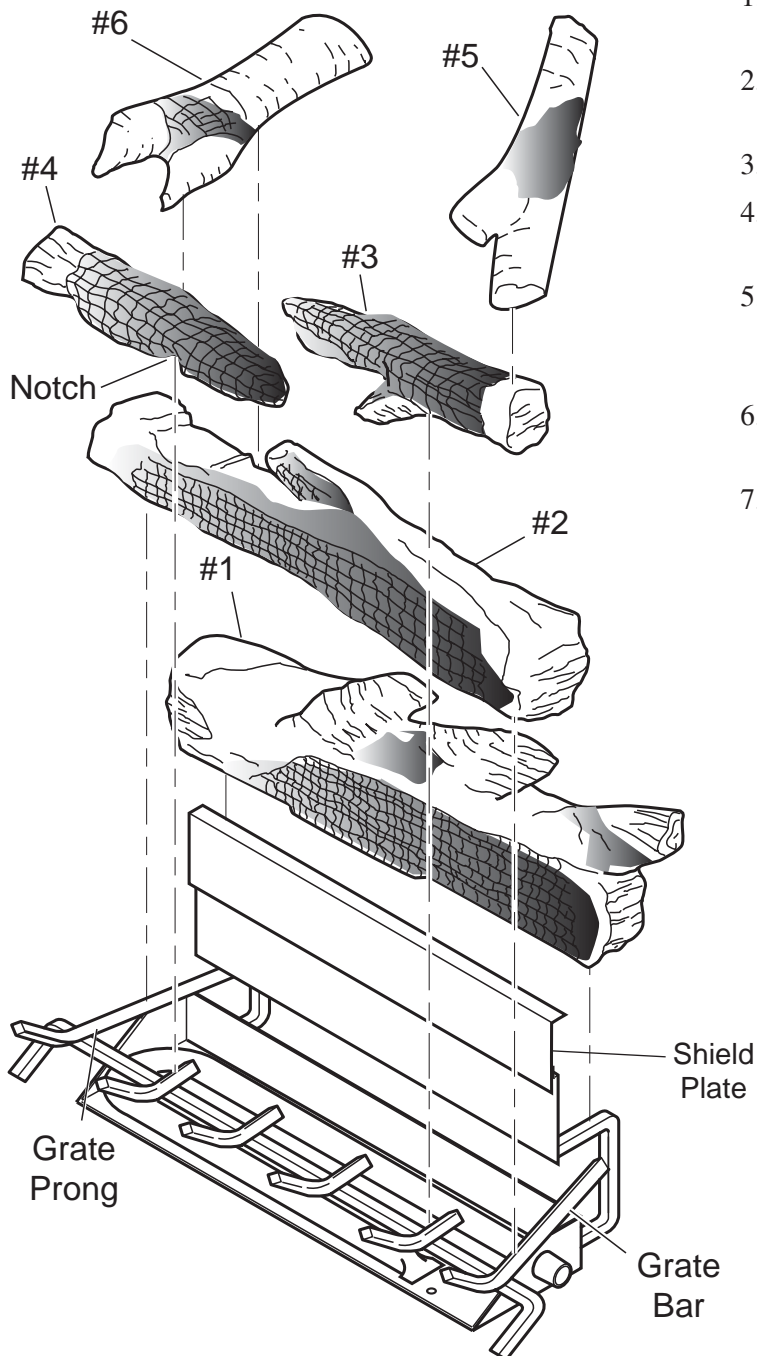

**Figure 64 - Placing Left Crossover Log (#7)**
7. Place Left Crossover Log #7 on Log #2 and Log #5. See *Figure 64*.